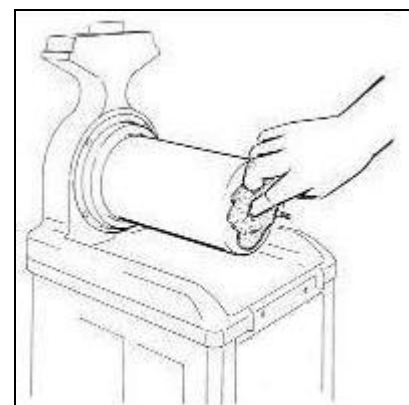

Fig. 18
- Thoroughly wash the evaporator and the drip tray surfaces with a sponge soaked with the sanitizer (see fig.18), leave at least 1-2 minutes and let it dry, do not rinse.